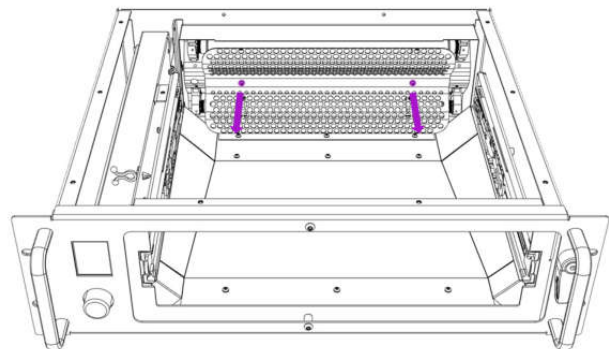

Fig. 15
1. Remove the screws of the UV-C lamp protection panel (Fig. 15)